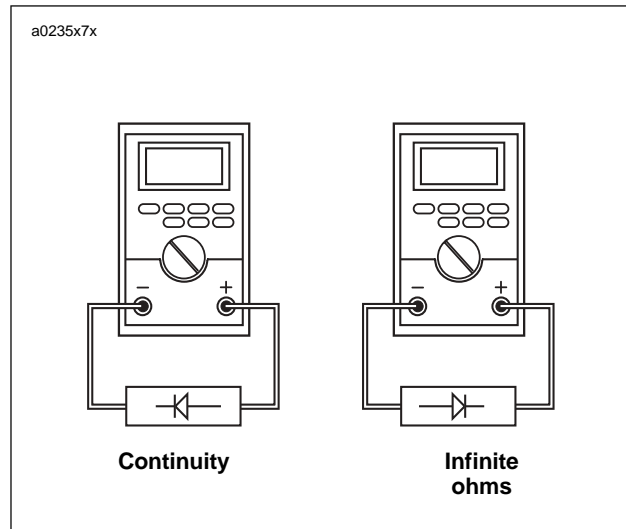

Figure 7-40. Ohmmeter Diode Test
1. Check diode with an ohmmeter as shown in Figure 7-40.